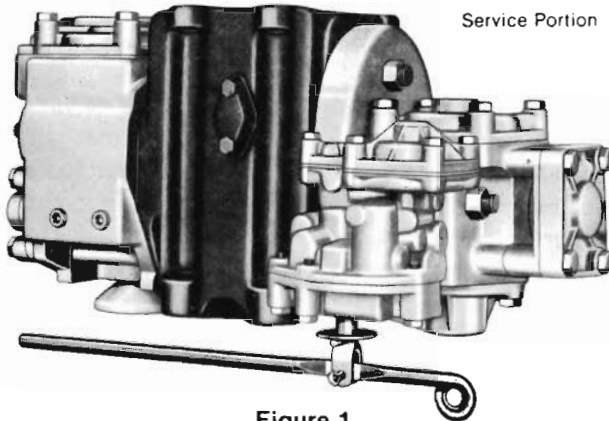
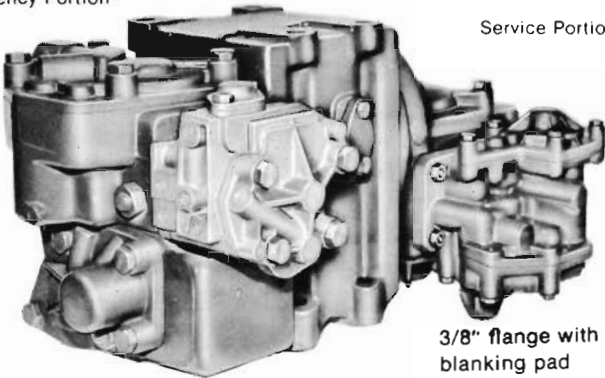

Figure 1
Figure 2
3.1.2 The “ABD” (Fig. 1) and “ABDW” (Fig. 2) Control Valves are composed of a pipe bracket and operating portions. Pipe connections are permanently made to the pipe bracket, which is bolted to the car underframing. The service and emergency operating portions, which are bolted to the pipe bracket, are removed when cleaning brakes on repair tracks and must be replaced by portions cleaned and tested in a certified air brake shop.